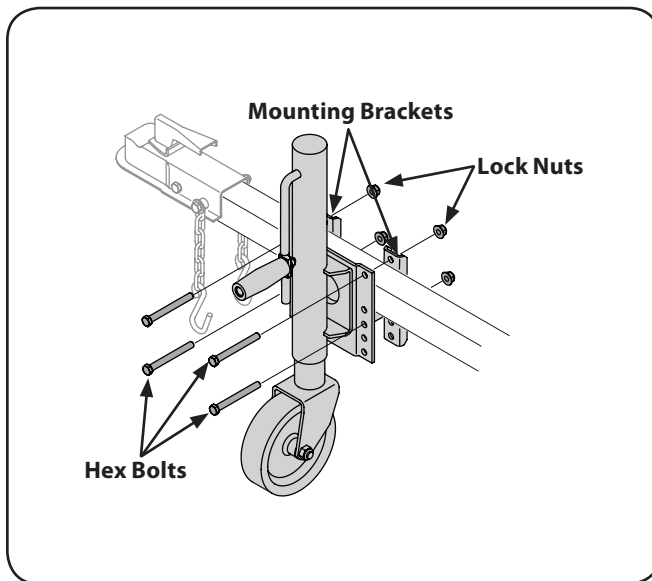

Figure 3-1
2. Place the adjustable jack stand halfway between the beam support/latch bracket and end of the tongue. See Fig. 3-1.